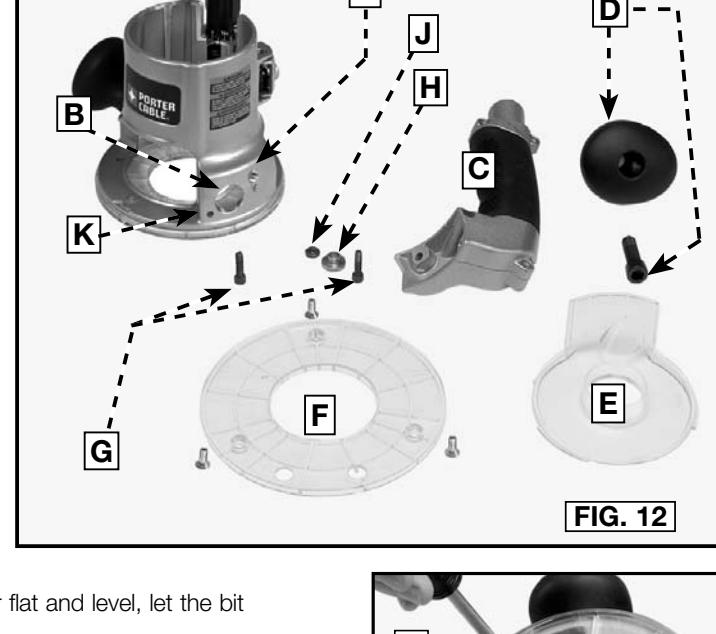

FIG. 12
GRIPVAC® PARTS (FIG. 12)
2. Remove the plastic plug from the dust port (B) Fig. 12.
5. Insert a hex screw (G) Fig. 12 through the handle into the hole (L). From inside the base housing, place a shoulder washer (H) and a hex nut (J) on the screw. Tighten the nut loosely.
6. From inside the base housing, insert the second screw (G) into the hole (K) and screw it into the threaded hole of the GripVac® handle.
7. Turn the router base upside down and place the dust deflector (E) Figs. 12 and 16 into the bottom of the router base by aligning the three plastic tabs on the deflector with the three recesses in the base. Align the extended part of the deflector (B) Fig. 16 with the GripVac® handle. The deflector will be flush with bottom of router base.